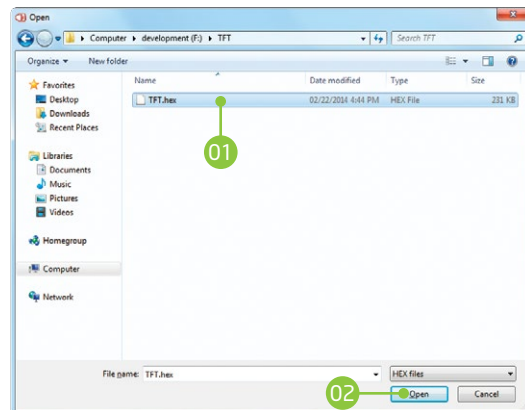

Figure 3-4: Selecting HEX
- 01 Click the **Browse for HEX** button and from a pop-up window (**Figure 3.4**) choose the .HEX file you wish to upload to your MCU's memory.